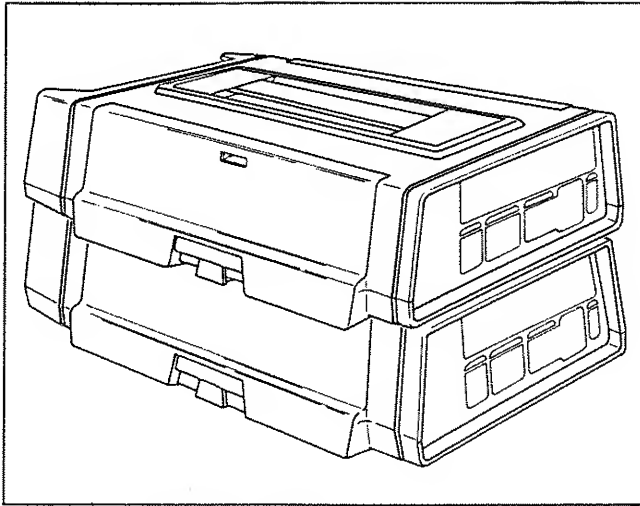

Figure 2-1. Stacking PTI Instruments
2. Place the unit on top of the PTI stack with the front panel toward the front of the stack. See Figure 2-1.